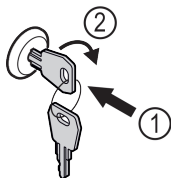

Fig. 153 Example illustration
- Insert key Fig. 153 (1).
- Turn key clockwise by 90° Fig. 153 (2).